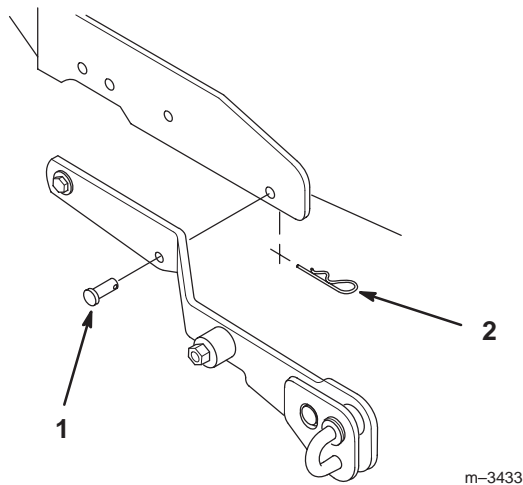

Figure 4
3. If you have previously had a snowthrower, blade, or tiller attached to the attachment lift, remove the two clevis pins on each side of the attachment lift (Fig. 4).